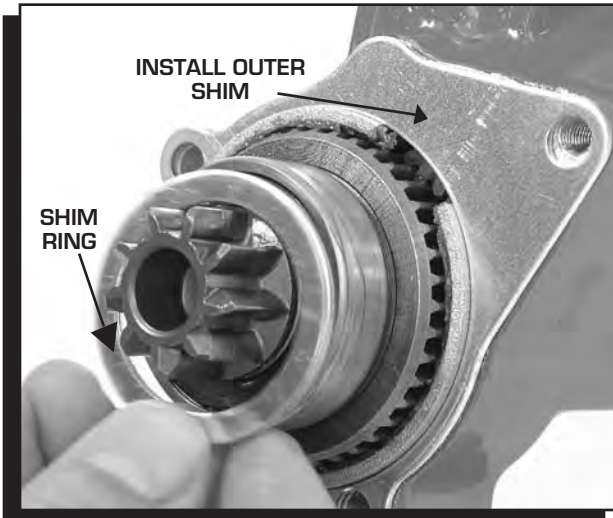

Figure 3 Installing the Pinion Shim Spacers.
- **If there is not enough clearance**, you will need to install the supplied shim kit by removing the mounting block (Figure 3). Place the small shim ring in the bearing bore and install the outer shim on the support housing. Reinstall the mounting block. This will move the pinion gear into the starter approximately 0.060".